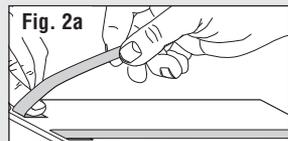

Fig. 2a
**TIP!** To make priming and painting loose Details easier, tape unexposed side down to loops of masking tape on a piece of cardboard (**Fig. 2a and 2b**).